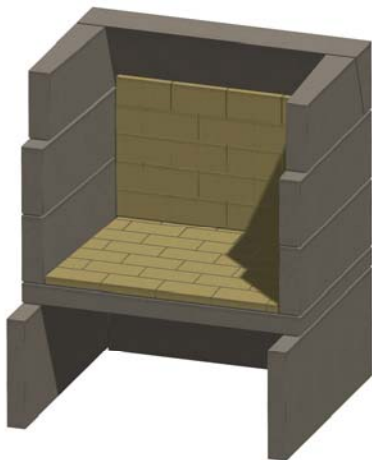

Figure 18. Back Wall Firebrick
J. Install firebrick on the back wall, with the brick laid on edge. See Figure 18.